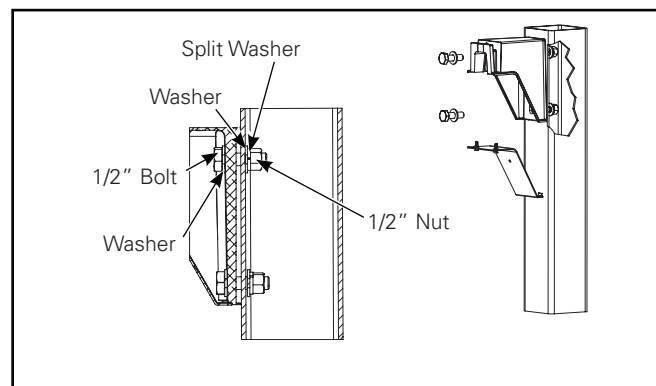

Figure 9.
3. Using provided 1/2" hardware, secure the pole mount arm to pole. Torque bolts to 40 ft-lbs. (Figure 9.)